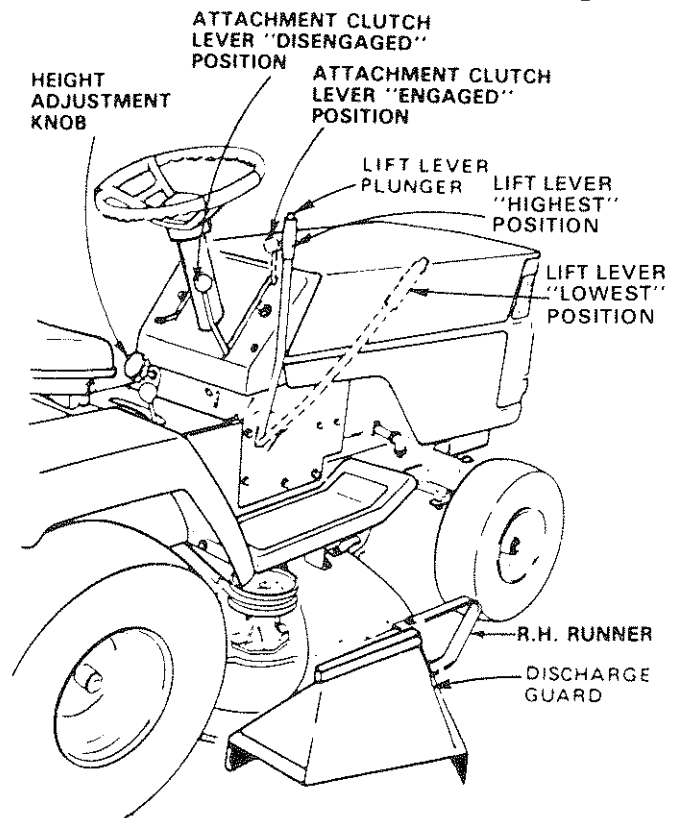

FIGURE 8
- a. Move the attachment lift lever to the high position and adjust height of cut to mid range. See Fig 8.
- f. Move throttle lever to half throttle and slowly move attachment clutch lever to engaged position, Fig. 8.
- b. Use the runner on the R.H. side as a guide; the blade cuts approximately an inch outside the runner (Fig. 8).